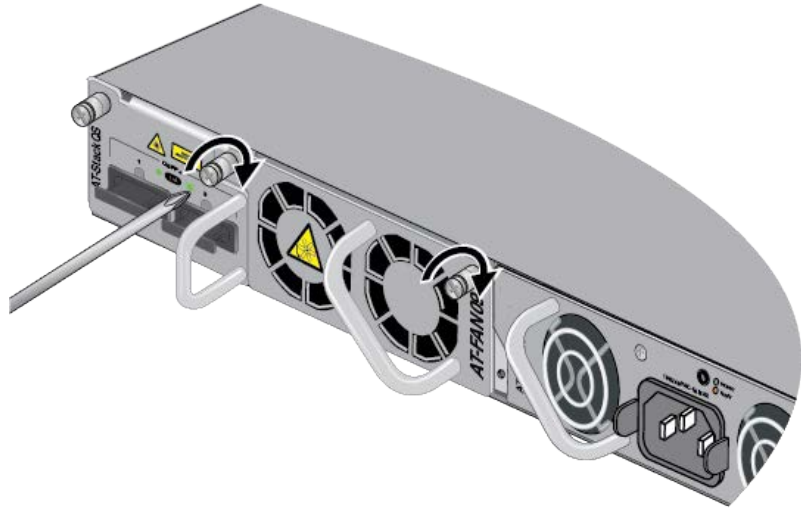

Figure 39. Tightening the Two Captive Screws on the AT-FAN09 Module
12. Tighten the two captive screws on the AT-FAN09 Module to secure it in the switch. Refer to Figure 39 on page 91.